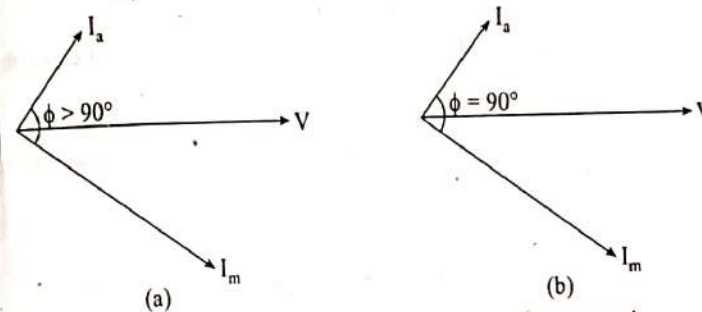

Fig. 2. Phasor diagram of capacitor-start capacitor run motor.
- Figures 2 (a) and (b) show the phasor diagrams of a capacitor-start capacitor-run motor.
At starting both the capacitor are in the circuit and $\phi > 90^\circ$ as shown in Fig. 2(a).
When the capacitor C_s is disconnected ϕ becomes 90° (electrical) as shown in Fig. 2(b).